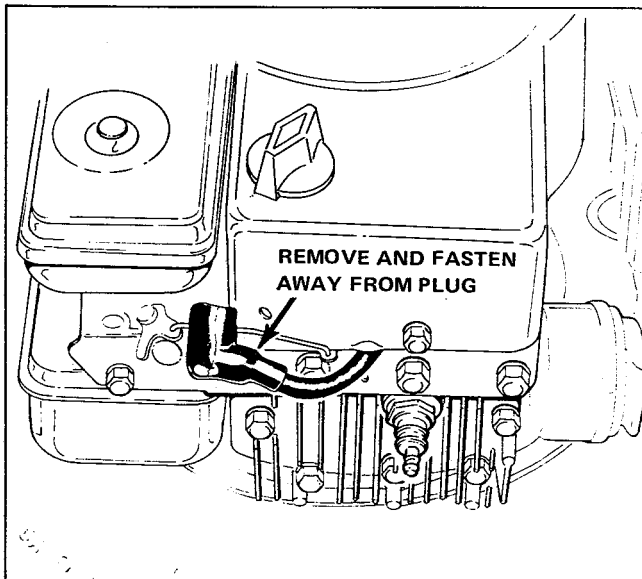

Figure 7. Remove Spark Plug Wire
1. Remove the spark plug wire and tie it away from the spark plug wire. (See figure 7).